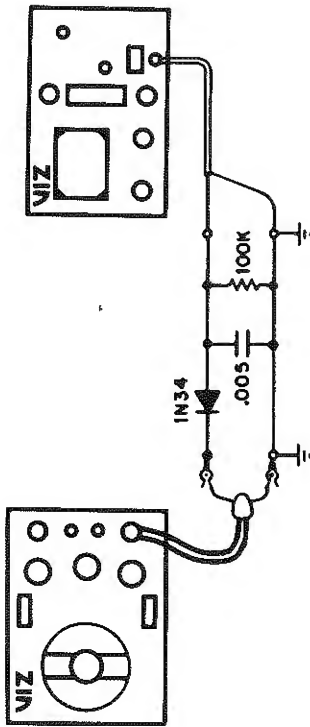

Figure 2. Using oscilloscope to crystal calibrate the WR-50C
**Example 2:** The calibrating method described below is similar to that of example 1, except that an oscilloscope rather than an amplifier is used as the zero-beat indicator. The equipment is connected as shown in Figure 2.